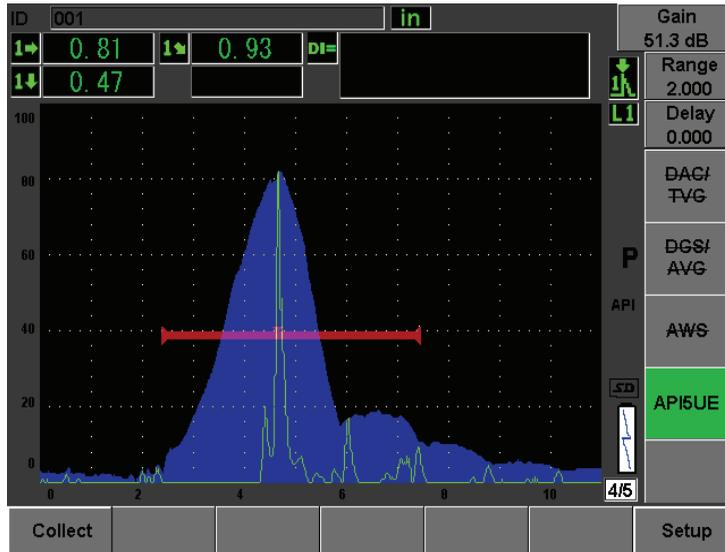

Figure 12-23 Calibration data in collect mode
4. Press **[P1]** to collect the  $A_{max}$ ,  $T_1$ , and  $T_2$  data from the envelope (see Figure 12-23 on page 253).